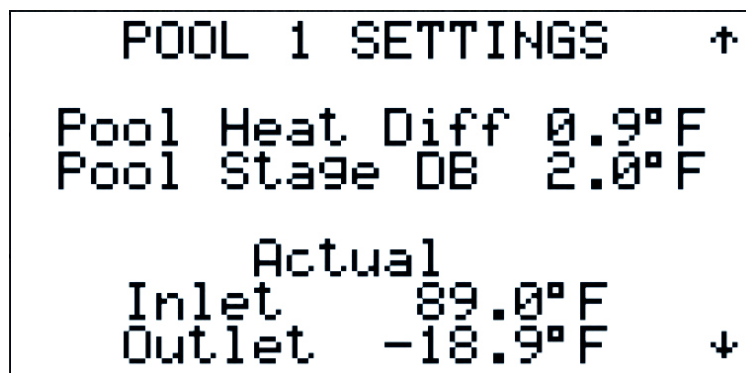

Figure 56
2.3.3.2.3. Tuning – Pool Settings (Figures 56 & 57)